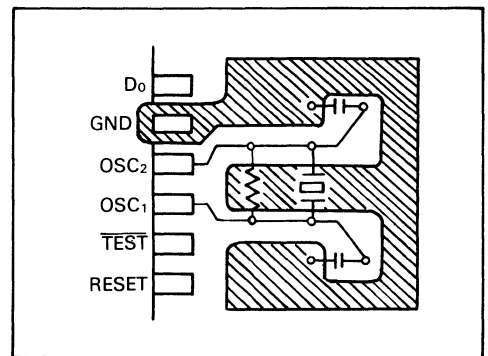

Figure 17. Layout of Crystal and Ceramic Filter
figure 17 for the layout of the crystal or ceramic filter. In all cases, external clock operation is available. Two divide ratios, 1/8, and 1/4, are selectable via mask option (table 21).
2. Wiring between OSC₁, OSC₂, and elements should be as short as possible, and never cross the other wires. Refer to the layout of crystal and ceramic filter (figure 17).